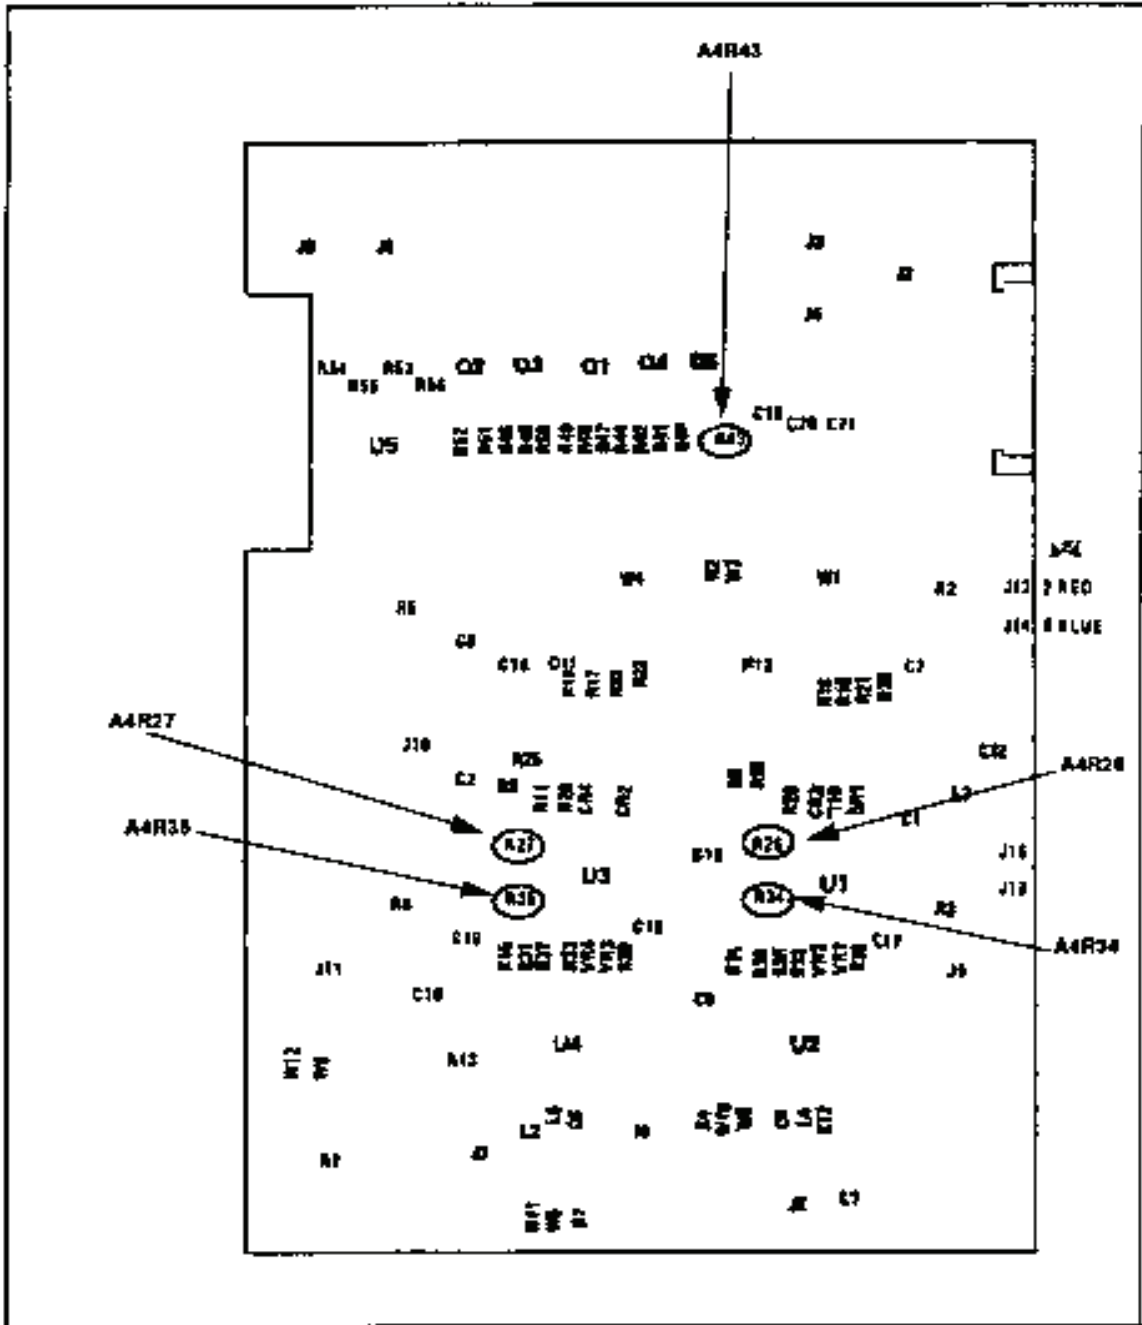

Figure 3. A4 board - component location.
(8) Adjust A4R43 (fig. 3) for a maximum TI display indication (R).
(9) Set range calibration **RANGE** switch to and adjust A4R26 (fig. 3) for a TI display indication between 9.99 and 10.01 mW (R).
(10) Set range calibrator **RANGE** switch to **100 mW** and adjust A4R34 (fig. 3) for a TI display indication between 99.9 and 100.1 mW (R).
(11) Repeat (9) and (10) above until both indications are within the limits specified.
(12) Press TI and range calibrator **LINE** switches to **OFF** position.
(13) Move cable connection from channel **A** power sensor input to channel **B** power sensor input.
(14) Press TI controls as listed in (a) through (c) below:
(16) Press **ZERO** key and wait approximately 15 to 17 seconds for display to reappear and stabilize.
(17) Set range calibrator **FUNCTION** switch to **CALIBRATE**.
- (18) Set range calibrator **RANGE** switch to **10 mW** and adjust A4R27 (fig. 3) for a TI display indication between 9.99 and 10.01 mW (R)
- (19) Set range calibrator **RANGE** switch to **100 mW** and adjust A4R35 (fig. 3) for a TI display indication between 99.9 and 100.1 mW (R).